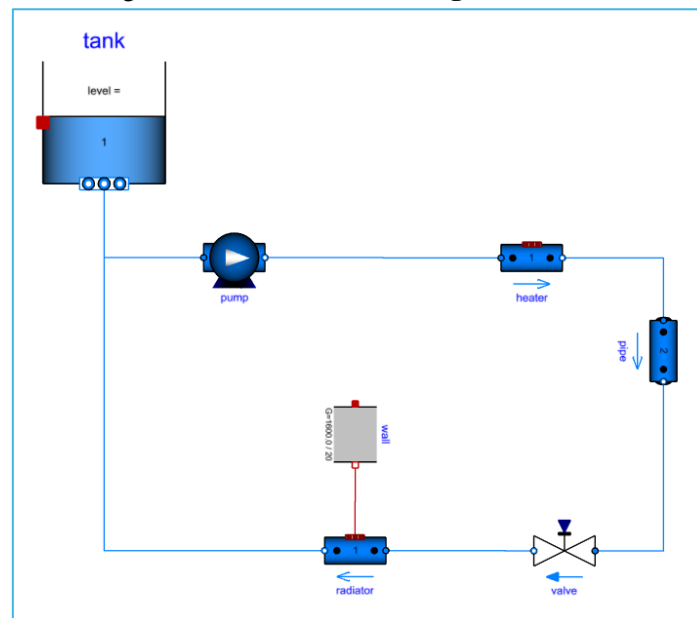

Figure 6 Coupling schema of heating system
4. Connect them according to the schema below in **Figure 6**: